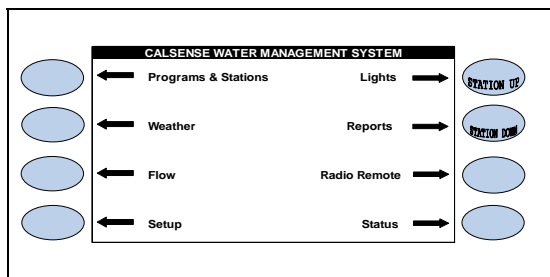

Figure 5.1
From the MAIN MENU screen (Figure 5.1).
7.  Press the **MAIN MENU** key to return to the MAIN MENU screen (Figure 5.1).